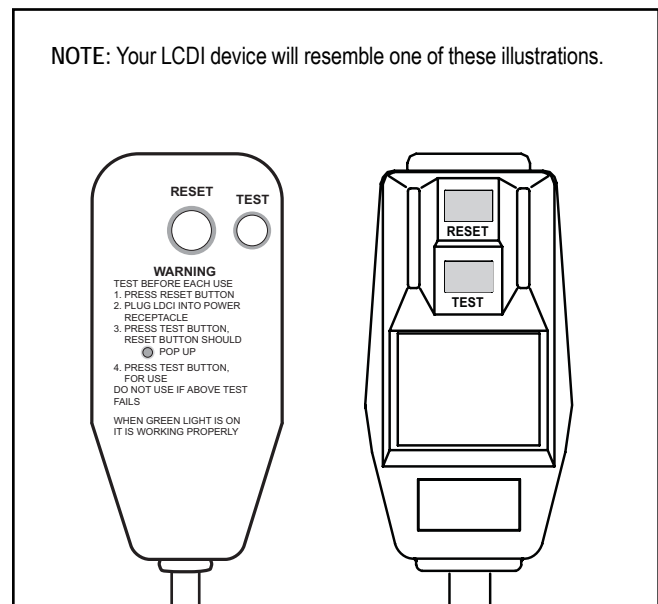

Figure 6
2. Press RESET (See Figure 6).